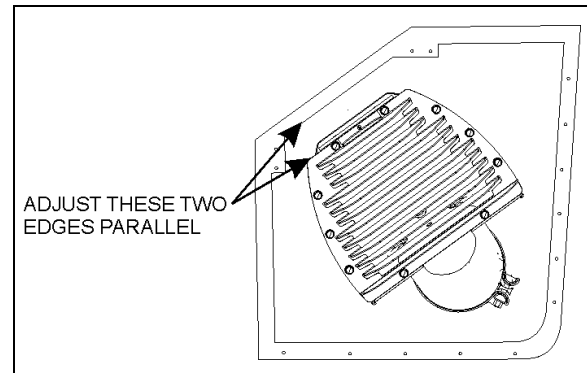

FIGURE 10: DIFFUSER POSITION ADJUSTMENT
- For proper angular position, make sure that the two edges shown on figure 10 are parallel with each other.